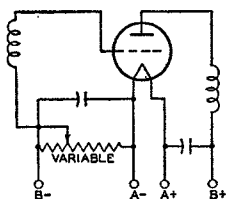
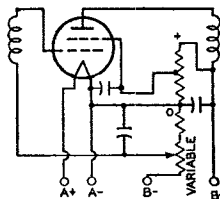

Fig. 64
Fig. 66
**Grid-bias variation** for the rf and if amplifier stages is a convenient and frequently used method for controlling receiver volume. The variable voltage supplied to the grid may be obtained: (1) from a variable cathode resistor as shown in Figs. 64 and 65; (2) from a bleeder circuit by means of a potentiometer as shown in Fig. 66; or (3) from a bleeder circuit in which the bleeder current is varied by a tube used for automatic volume control. The latter circuit is shown in Fig. 47. In all cases it is important that the control be arranged so that at no time will the bias be less than the recommended minimum grid-bias voltage for the particular tubes used. This requirement can be met by providing a fixed stop on the potentiometer, by connecting a fixed resistance in series with the variable resistance, or by connecting a fixed cathode resistance in series with the variable resistance used for regulation.